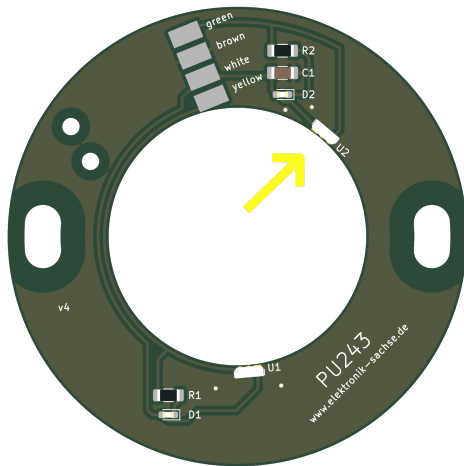

Figure 3 Which sensor to use.
- Use the sensor U2 (see figure 3) for the initial setup.